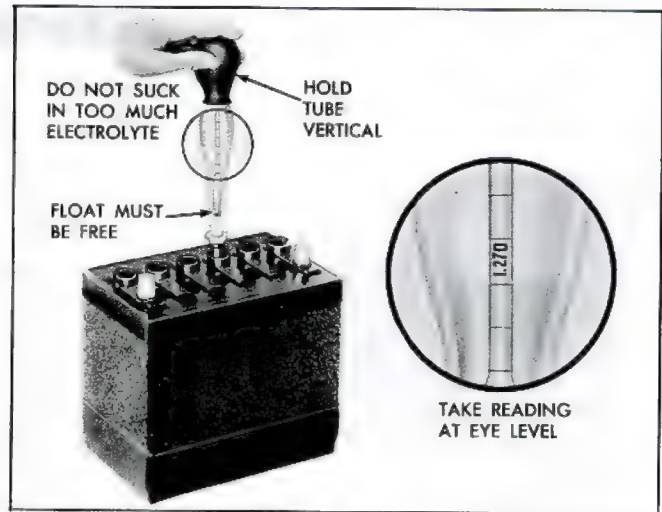

Fig. 2b—Testing Specific Gravity of Battery
2. Measure specific gravity of electrolyte in each cell (fig. 2b) and compare readings with the following: